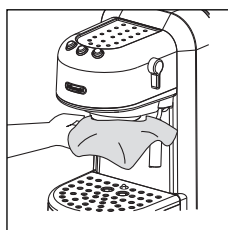

fig. 31
- Clean the boiler with a damp cloth (fig. 31);